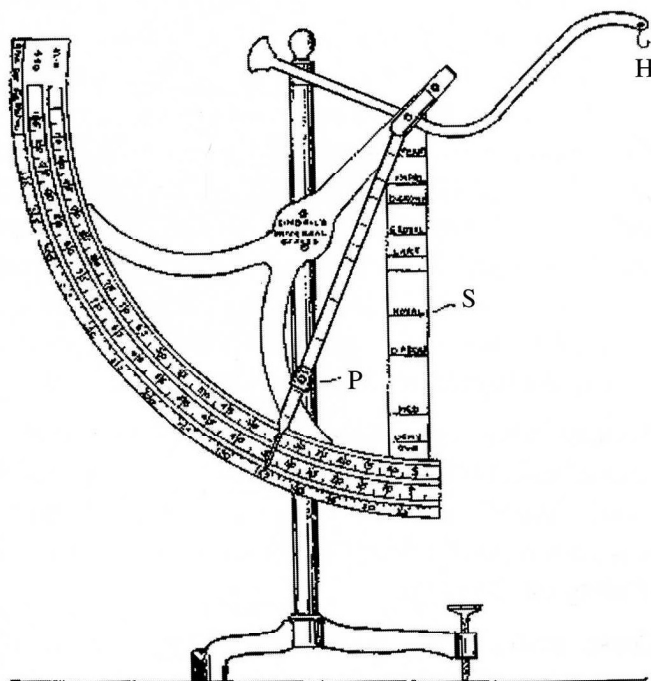

Figure 1. ▲▲ Sindall's Universal Paper Scale, dating from 1912.
This pattern of scale was improved upon by Sindall, an eminent English paper scientist, who produced the Universal Paper Scale which was capable of registering ream weights for a variety of finished sheet sizes. The adaptation, (shown in Figure 1)³, consisted of a weighted poise (P) attached to the index arm. The poise was moved relative to a vertical scale [graduation] calibrated to sheet sizes. Additionally, when the poise was positioned at the Demy marking, the index arm registered the weight in metric units (g/m^2).